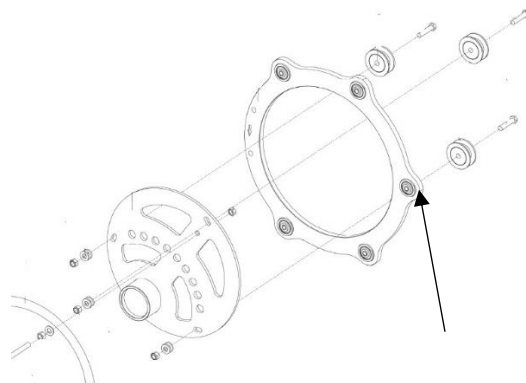

Figure 202
7. Remove the spider arms from the cam. The cam can now be removed by removing the bolts that hold the rollers on the cam. Figure 202